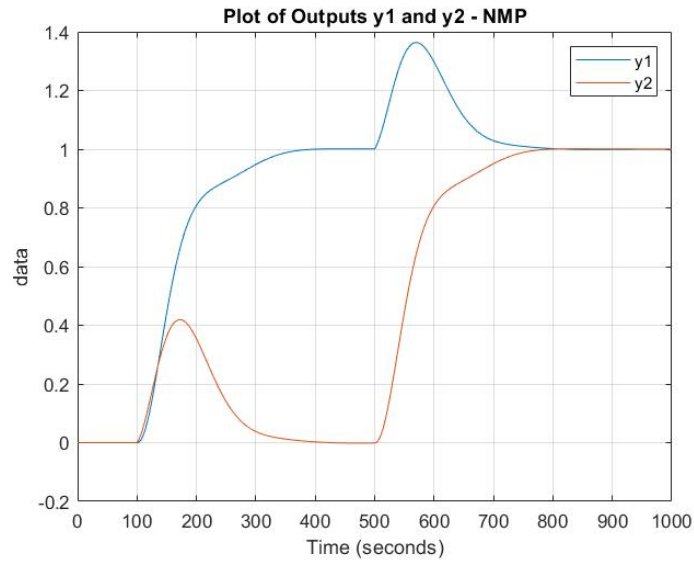

Figure 8: Output plot (Non-Minimum Phase) from exercise 3.2.3
*By observing the plot of outputs  $y1$  and  $y2$  for Non Minimum Phase i.e. figure 8, we can observe that controller is not good since rising time is too high for it. Thus, we can conclude that the controller for the Minimum Phase case has way better performance than the Non-minimum Phase case.*
*For the Non minimum Phase case, the RGA analysis showed that the control signal  $U_1$  is to be paired with output  $Y_2$  and  $U_2$  is to be paired with output  $Y_1$ . The step input 1 is applied at  $t = 100s$  and input 2 is applied at  $t = 500s$ . By observing figure 8, we can see that as the reference input 1 is applied, both the outputs are affected but the effect is observed to be prominent in output  $Y_1$  as output  $Y_2$  gradually tends to zero. Similar response is observed at  $t = 500s$ , when input 2 acts and  $Y_1$  initially is affected but the controller succeeds to attenuate the load. Coming to the Control Signal, initially  $U_1$  acts for tracking of output  $Y_2$  and  $U_2$  acts for tracking of output  $Y_1$  but due to coupling the other outputs are also affected but to a lesser extent and the controller succeeds to attenuate the cross pairing between  $U_1 \rightarrow Y_1$  and  $U_2 \rightarrow Y_2$*